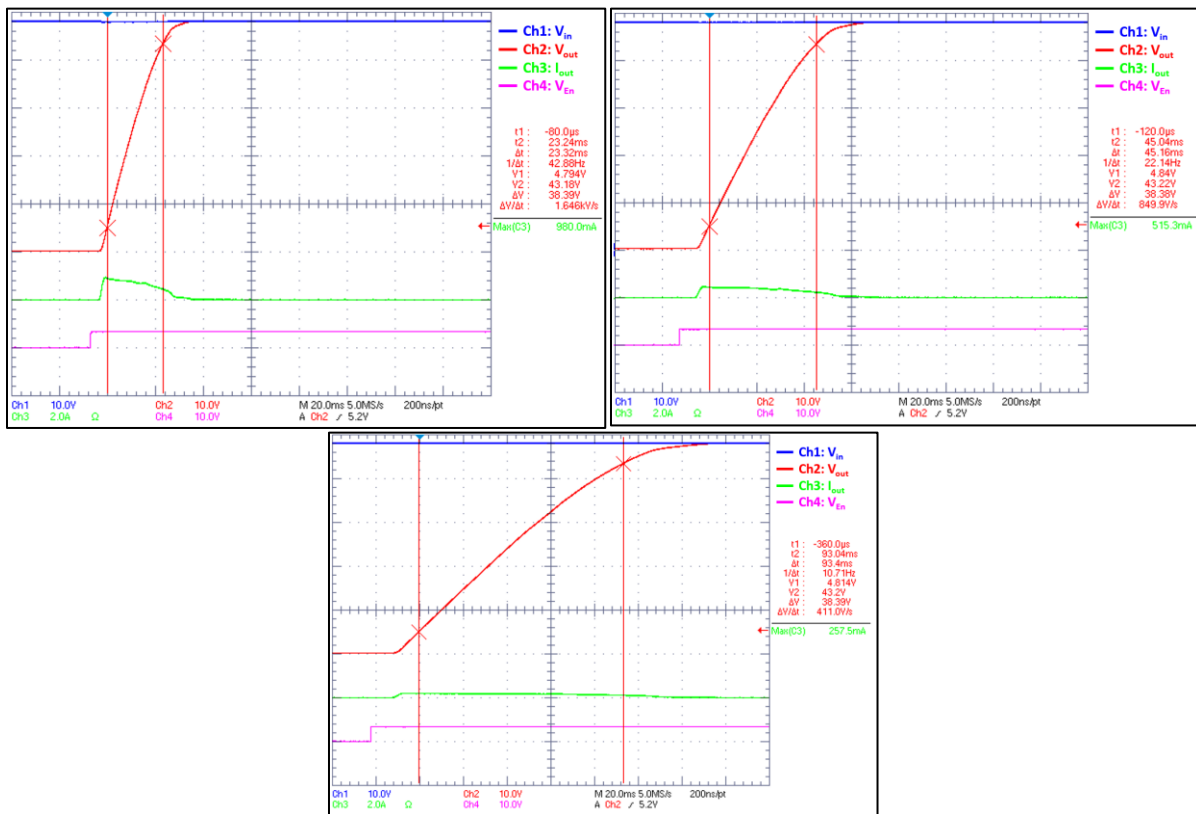

Figure 9. Turn on Time for Increasing DVDT Capacitance
9. Repeat steps 6-8 with a jumper across JDVDT1, JDVDT2, and both. The expected results can be seen in Figure 9 below.